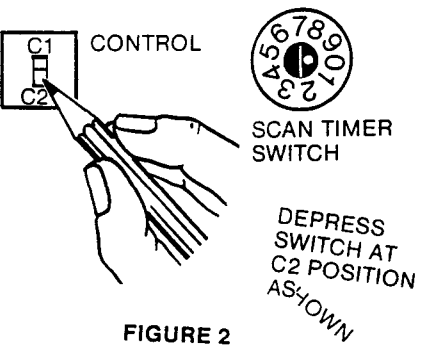

FIGURE 2
- A. Set control switch to C2 position. (See Figure 2).
- B. Set scan timer switch to ZERO position. White dot on switch indicates setting. (See Figure 2).